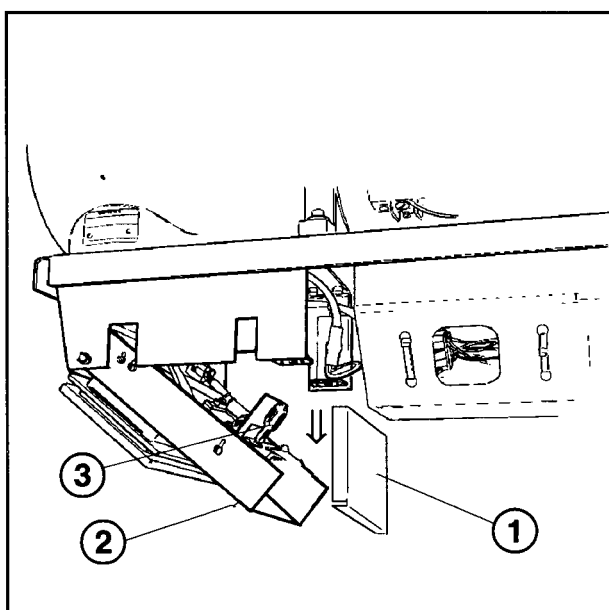

Fig. 5
- Remove the rear plate from the collimator unit (1/Fig. 5).
- Loosen the locking screws a quarter of a turn (2/Fig. 5) and swing down the lamp holder to exchange the lamp (3/Fig. 5).